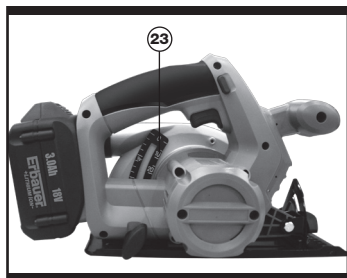

Fig 4
| 23. | CUTTING DEPTH SCALE (See Fig.4) |
| 24. | HEX KEY (See Fig.4) |
| 25. | CUTTING DEPTH LOCK KNOB (See Fig.4) |
| 27. | ADJUSTMENT SCREW (See Fig.4) |
Note: The adjustment screw (27) is used to set the accurate bevel angle at 0°. (See Fig.4)